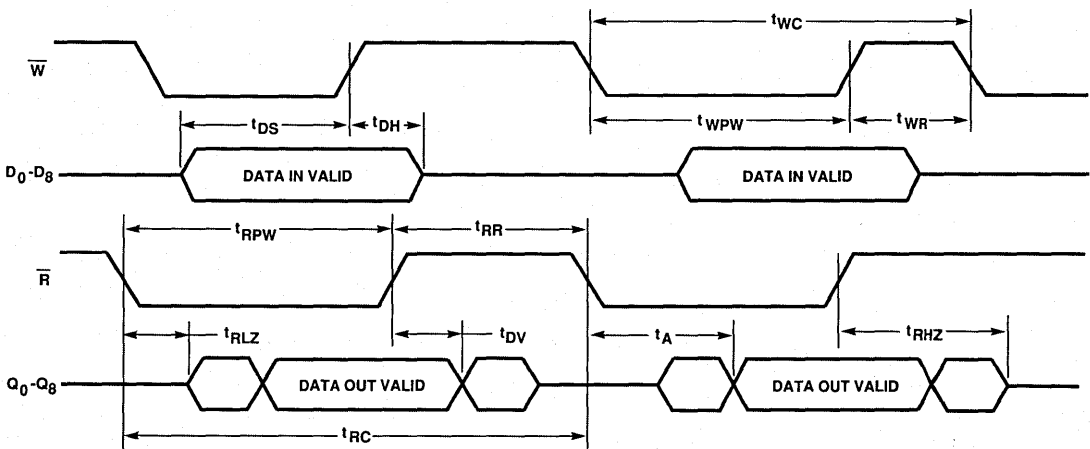

Figure 3. Asynchronous Write and Read Timing
The HIGH state of the Full Flag ( $\overline{FF}$ ) indicates that the FIFO is capable of accepting data. The falling edge of Write (W) initiates a write cycle. (See Figure 3.) Data appearing at inputs D0-D8  $t_{DS}$  prior to and  $t_{DH}$  after the rising edge of W will be stored sequentially in the FIFO.
The HIGH state of the Empty Flag ( $\overline{EF}$ ) indicates that the FIFO is ready to output data. The falling edge of Read (R) initiates a read cycle. (See Figure 3.) Valid data appears on the outputs Q0-Q8  $t_{x}$  after the falling edge of R, and remains until  $t_{DV}$  after the rising edge of R. Q0-Q8 return to a high-impedance state when a valid read is not in progress.